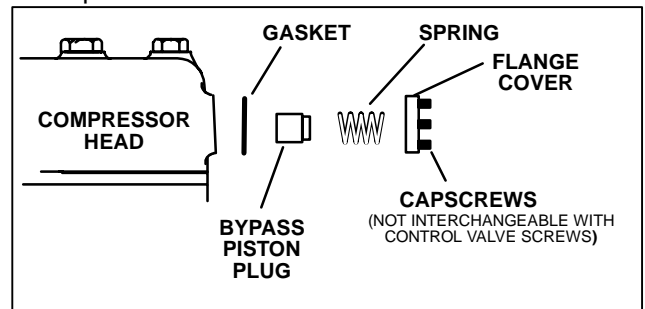

Figure 4-8. Removing Bypass Piston Plug
- a. Remove the three socket head capscrews from both unloader valves on the side heads of the 05G compressor. Remove the unloader valve and bypass piston assembly, keeping the same capscrews with the assembly. (See Figure 4-8) The original unloader valve must be transferred to the replacement compressor. The plug arrangement removed from the replacement is installed in the original compressor as a seal. If piston is stuck, it may be extracted by threading a socket head capscrew into